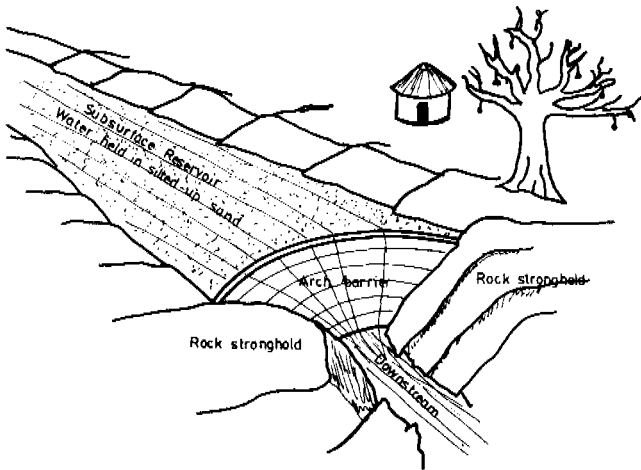

Fig. 15 Concrete Arch Dam
- c) The third construction is an arch weir built of blocks or concrete as a thin walled arch across the riverbed. This type of subsurface dam is fairly cheap to build, but it requires rock abutments on both river banks (see Fig. 15).